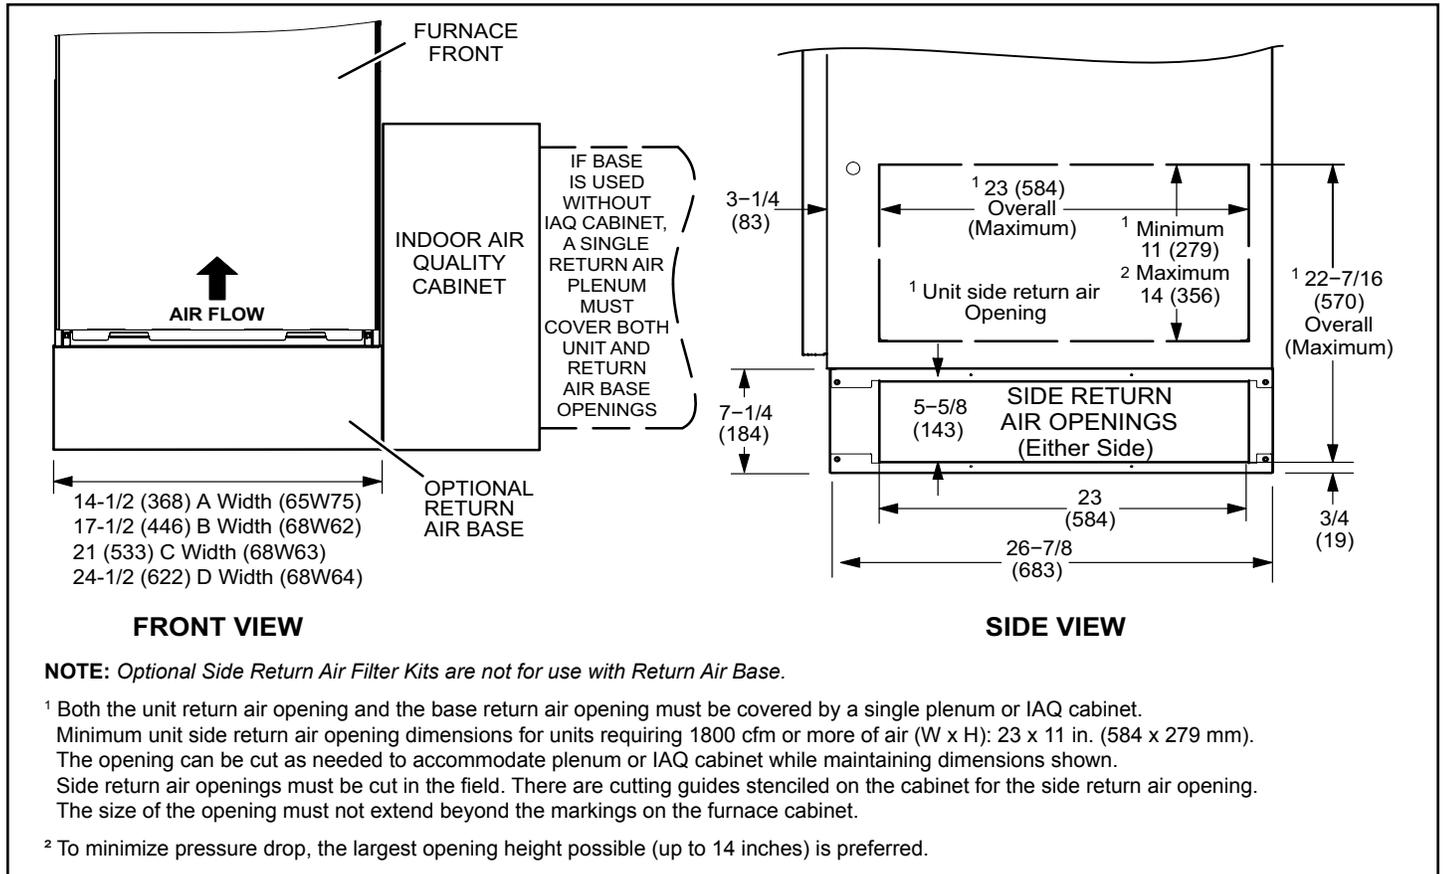

Figure 9. Optional Return Air Base (Upflow Applications Only - For use with A, B, C and D cabinets)
2. Single side return air with optional return airbase. See Figure 9.